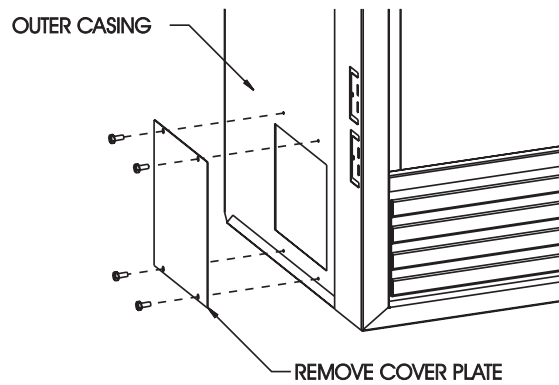

Figure 8
1. Remove hearth pan from firebox and retain six (6) 10 x 1/2 screws.
2. Remove cover plate from exterior of firebox and retain four (4) 10 x 1/2 screws (See Figure 8).